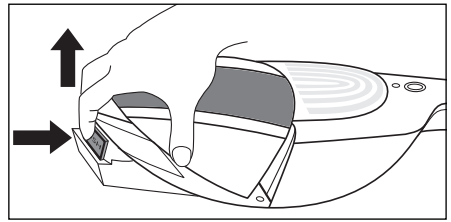

Fig. 3
- 2) Press the PUSH **6** button and, at the same time, pull the dirt container **9** upwards. You can now lift this off upwards/forwards (Fig. 3).